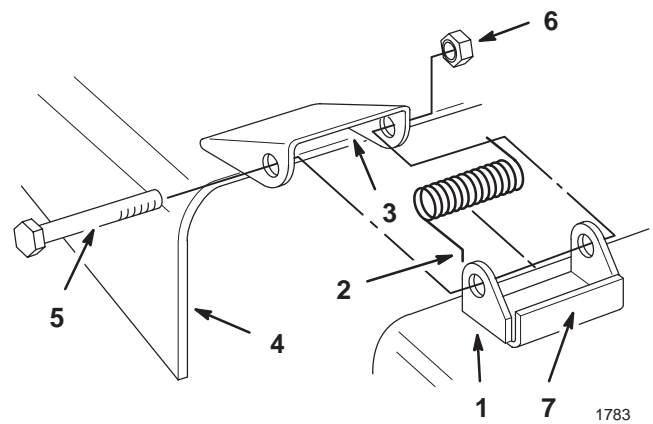

Figure 3
1. Place the springs into the brackets on mower with the hooked ends over the raised back (Fig. 3).
2. Align the grass deflector with the holes in the brackets and the spring straight end in the space under the hinge and above the deflector (Fig. 3).
3. Secure the deflector to the bracket with 2 bolts (3/8 x 3-1/2 inch) and 2 locknuts (3/8 inch) (Fig. 3).